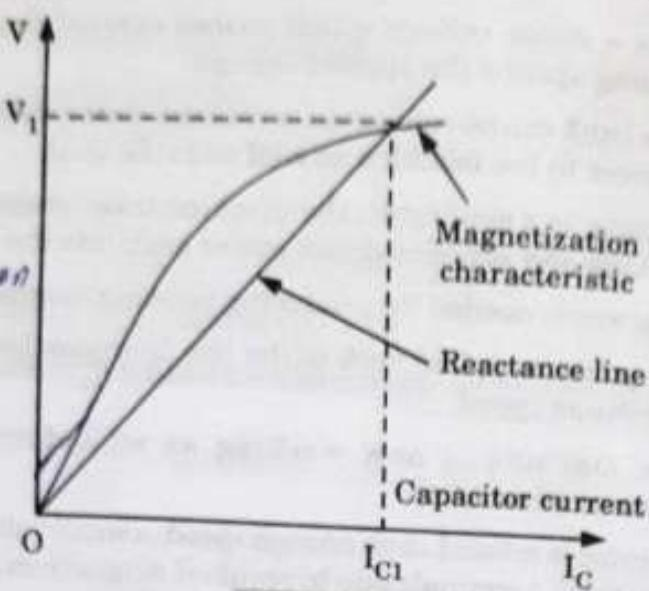

Fig. 1.6.3.
C. Characteristics : The magnetization curve and $V-I_c$ characteristics of self excited induction generator as shown in Fig. 1.6.3.